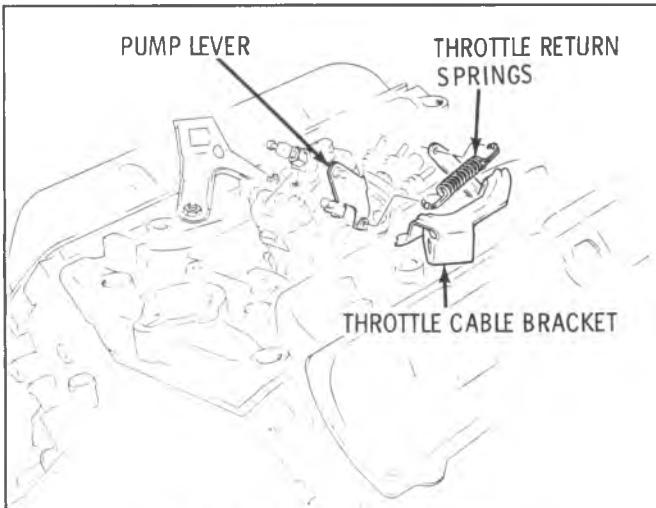

Fig. 6A6-21—Throttle Return Springs
4. Connect pipes to flow control valve in air crossover and ventilation filters in the valve covers. (Fig. 6A6-19).